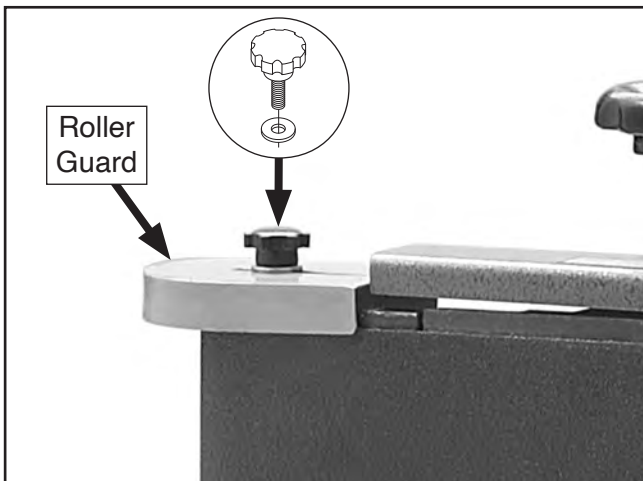

Figure 19. Roller guard secured to top of idler roller.
- Place roller guard on top of idler roller and secure it in place with pre-installed knob bolt and washer shown in **Figure 19**.